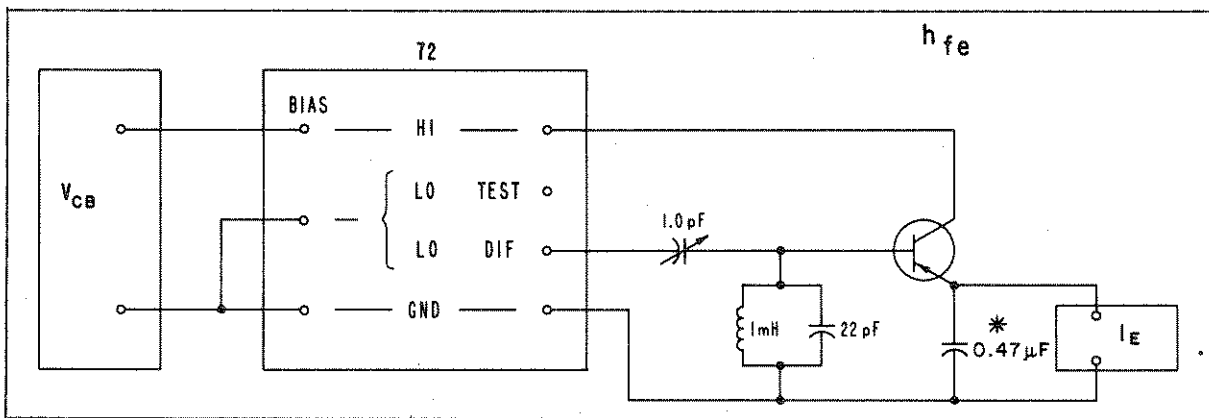

Figure 2-4. Transistor Beta Measurement
C. Beta (h_{fe}). See Figure 2-4.
The variable series capacitor in the base circuit (see Figure 2-4) must be adjusted for a value of 10 pF. This is easily accomplished by connecting a small jumper between the socket's base and collector terminals (a "unity-gain transistor"), permitting the direct measurement of this capacitance.